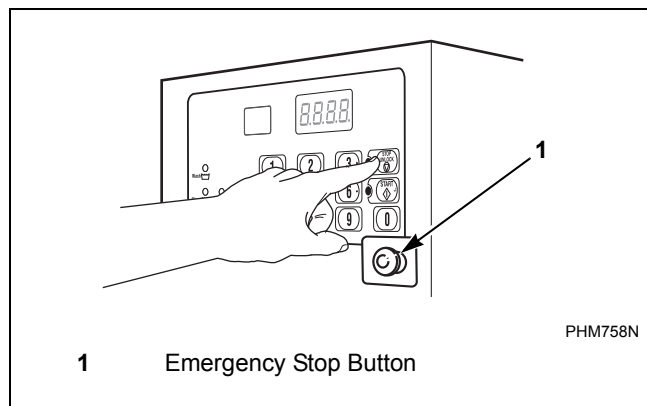

Figure 36
2. Press the STOP/UNLOCK button located on the control. Refer to *Figure 36*.